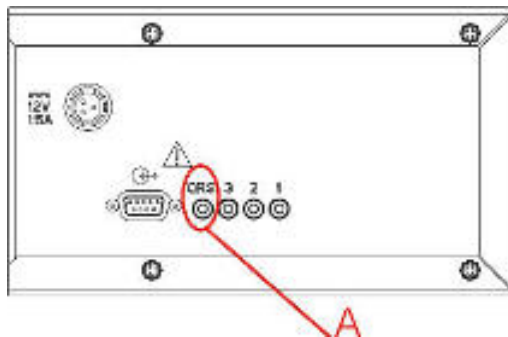

Figure C-4: Preamp II QRS Port
2. Plug the phono-plug end of the ECG trigger cable into the TTL jack on the Preamp II (labeled QRS). See A in Figure C-4.